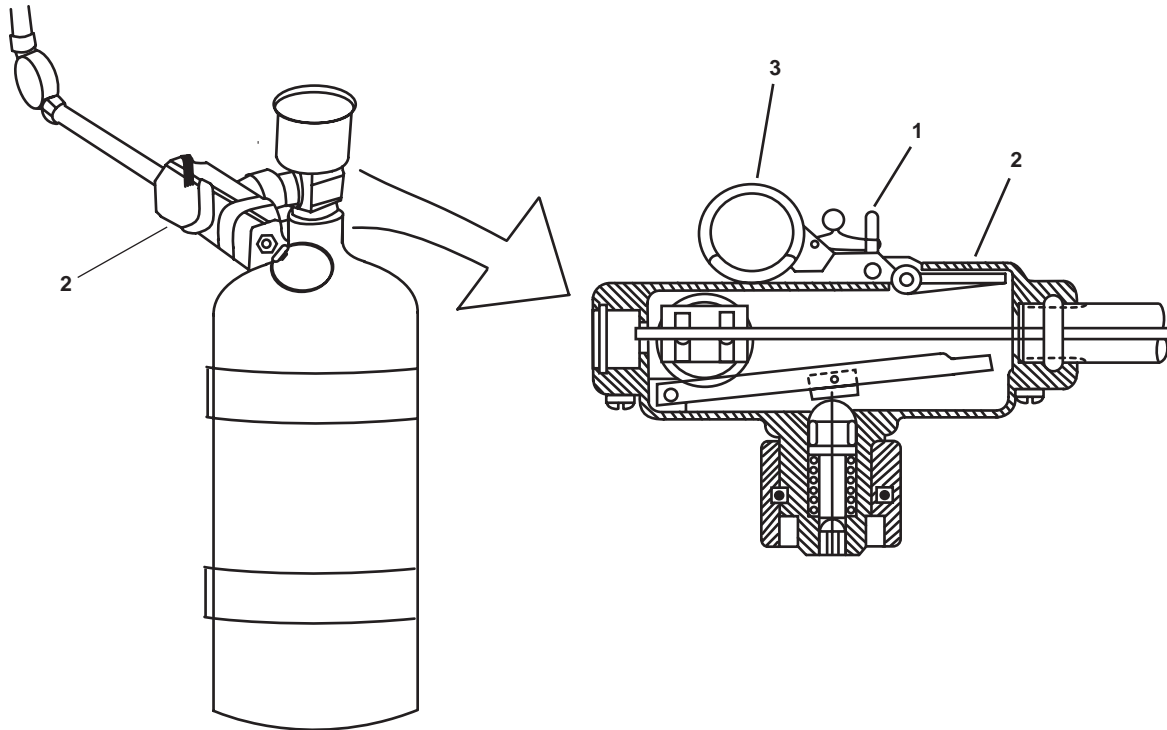

Figure 6. CO₂ Discharge Valve
2. Remove the locking pin (figure 6, item 1) and OPEN the CO₂ discharge valve (figure 6, item 2) by pulling the handle (figure 6, item 3) and rotating it clockwise 180°.